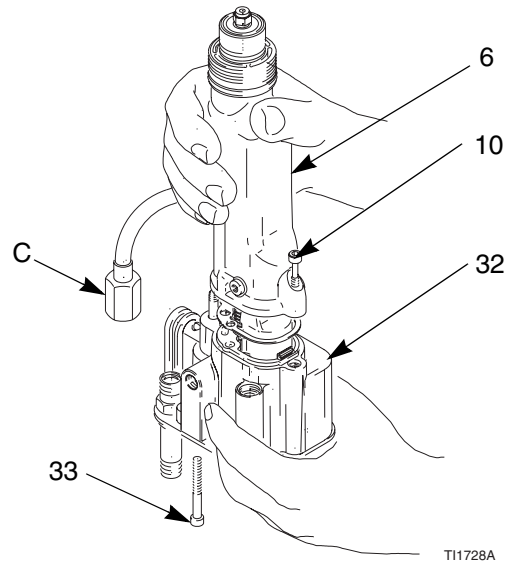

Fig. 33. Barrel Removal
2. Remove the air cap, page 37. Remove the gun shroud (2).
3. Disconnect the fluid tube nut (C).
4. Remove the jam nut (28) and actuator arm (29). See page 42.
5. Loosen the three screws (10, 33). See FIG. 33..